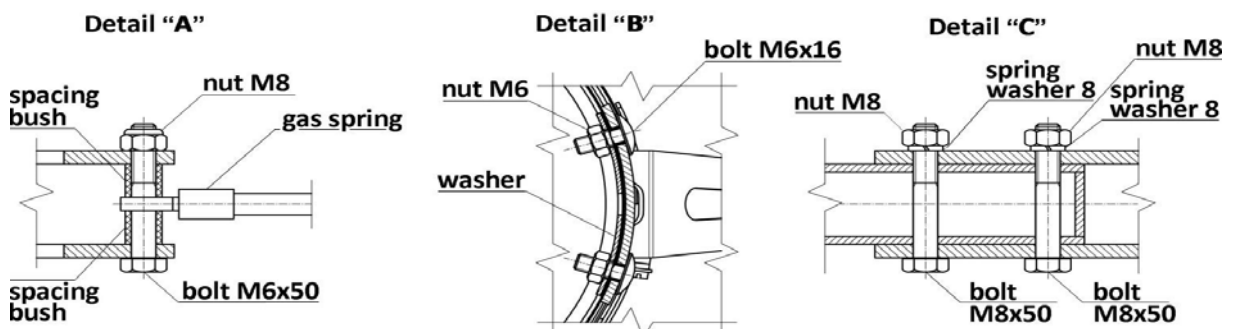

Fig. No.5 – Assembly instruction of the extraction arms type YOGA-{M;K;L;D}-R
3. Screw up the swivel support, to the plate of the lower joint – according to the information in Fig. No.5 Detail “C”.
5. Screw together the terminations of the gas spring with a plate of the lower joint – according to the Fig. No.5 Detail “A” (see also Photo No.1).
7. Screw up the hood with the hood joint – according to the information in Fig. No.5, Detail “B”.